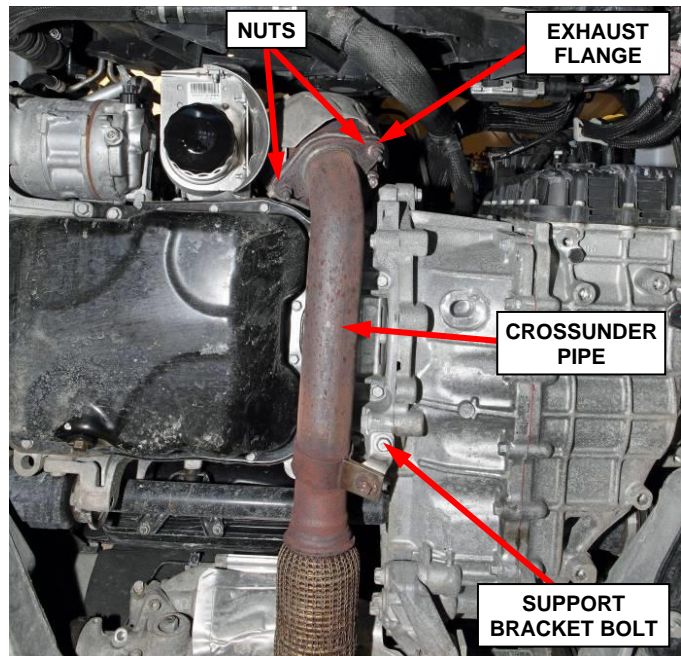

Figure 2 – Crossunder Pipe
5. Remove and **SAVE** the bolt securing the exhaust crossunder pipe support bracket to the transmission (Figure 2).
6. Remove the and **DISCARD** the two nuts securing the exhaust flange crossunder pipe to the maniverter (Figure 2).